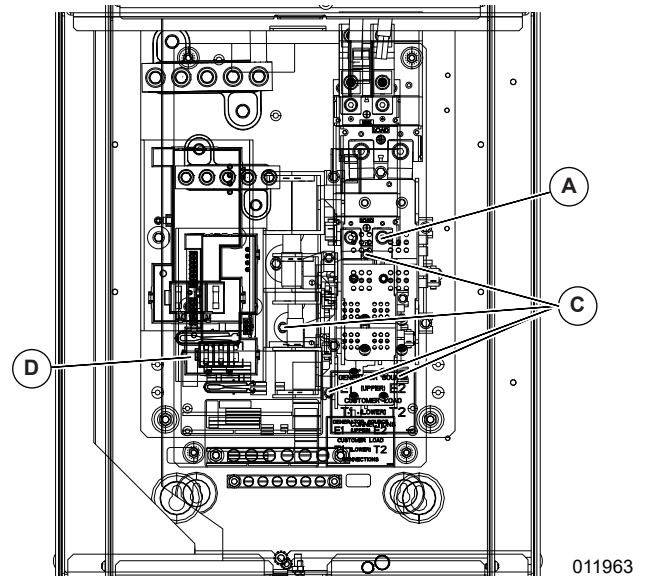

Figure 3-12. Install Kit G0074000
3. See Figure 3-12. Use provided M5 screws (C) to install transfer switch assembly from kit G0074000.
4. Install screws (A) from step 1 and tighten to 72 in-lbs onto circuit breaker.
5. Install SACM unit from kit G074000 into bracket provided (D).
6. Plug harness with 8 pin connector into SACM unit (D).